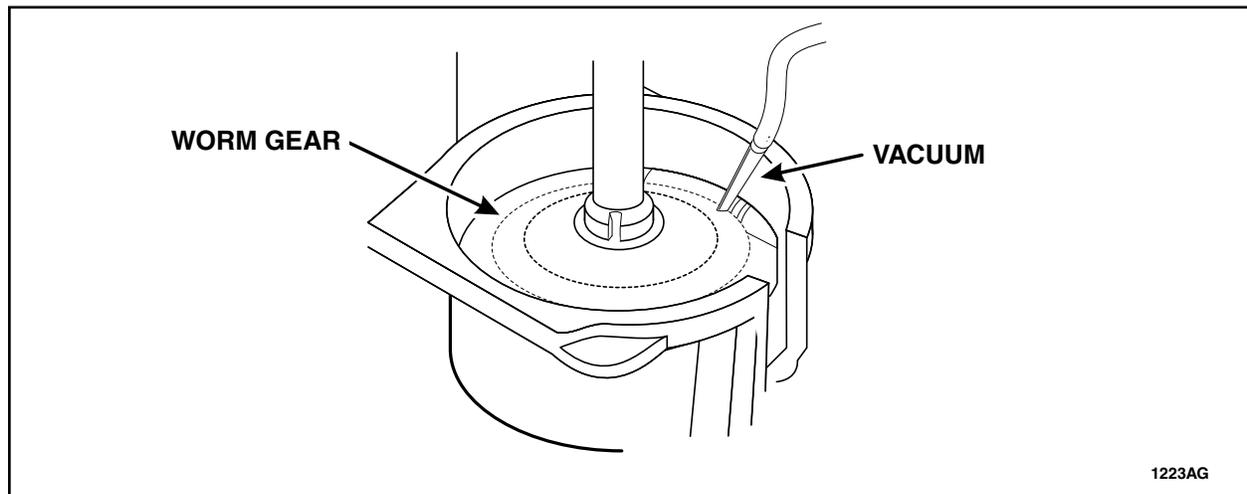

FIGURE 15
21. Vacuum the surface of the gear face to remove any contamination. Thoroughly vacuum the worm gear. See Figure 15.